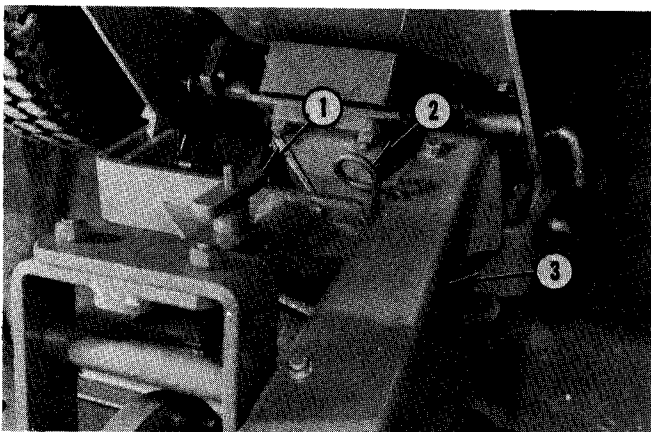

Fig. 8 - DRIVE BELT ADJUSTER
Note: If drive belt pulley is difficult to install, unscrew belt tension adjuster, Fig. 8.
7. Secure belt cover in place, as shown in Fig. 8.